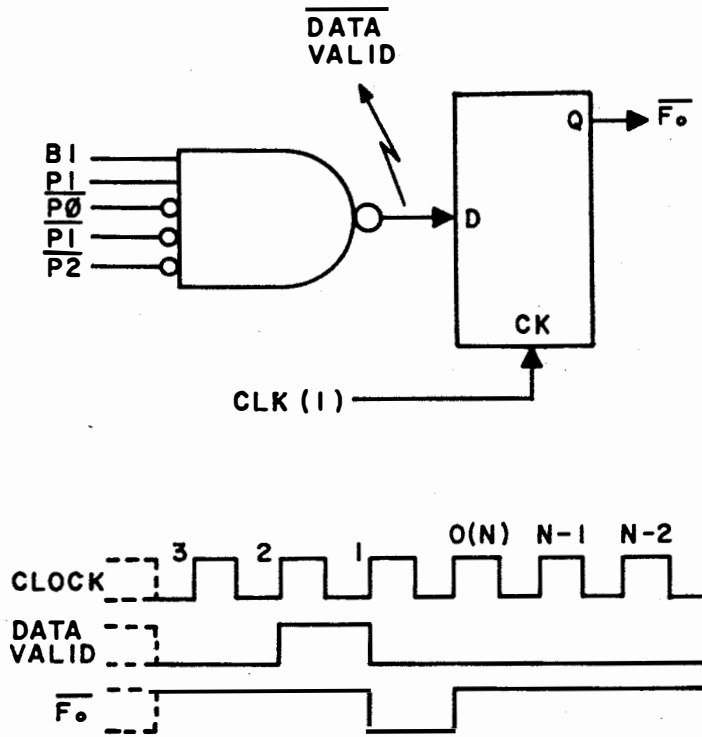

Figure 3-22. Two-Pulse Early Decode, Count Termination
**3-150. DIVIDER SECTION TERMINAL COUNT.** The terminal counts of both the swallow counter and the programmable counter are detected by the terminal count control IC, U3, see F0-15. The prescaler mode is controlled by the swallow counter logic outputs applied to the Z inputs of U3, as described in paragraph 3-146. The terminal count of the programmable (main) counter is obtained when the correct logic levels are applied to the P and B inputs of U3. As previously stated, the actual terminal count occurs at 370 (or 371, with the carry condition). However, because of the relatively high counting speed, the counters require about two clock pulses to reset at the end of each counting cycle. Therefore, the divider makes use of a two-pulse "early decode" circuit contained in U3, see figure 3-22.